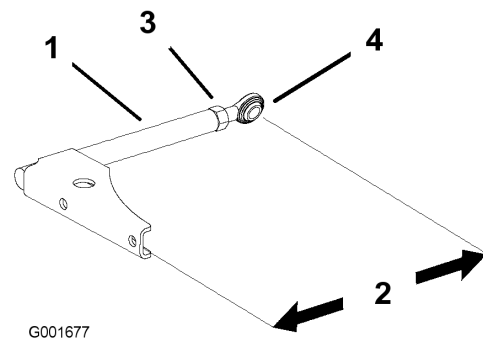

Figure 52
1. Loosen the jam nut and rotate the ball joint counterclockwise, one turn at a time (Figure 52).
2. Adjust each side the same amount. Each push arm should have a nominal length of 13-1/2 inch (34 cm) at a 15 degree twist (Figure 52).